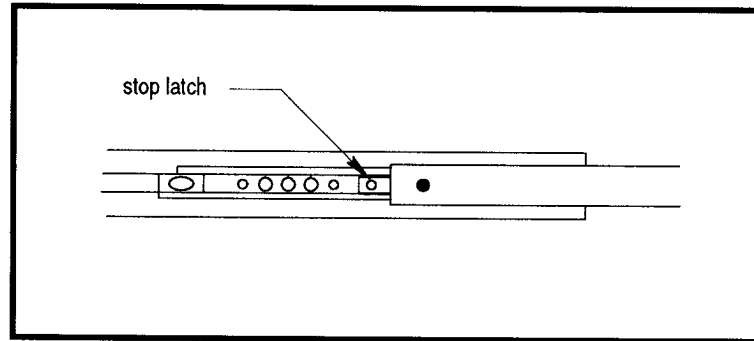

Figure 2-5. Extended track.
1. Pull the slide-out track section to its fully extended position, as shown in Figure 2-5, below.